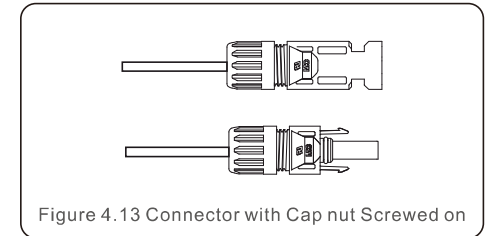

Figure 4.13 Connector with Cap nut Screwed on
4. Insert the contact pin to the top part of the connector and screw up the cap nut to the top part of the connector. (see figure 4.13).